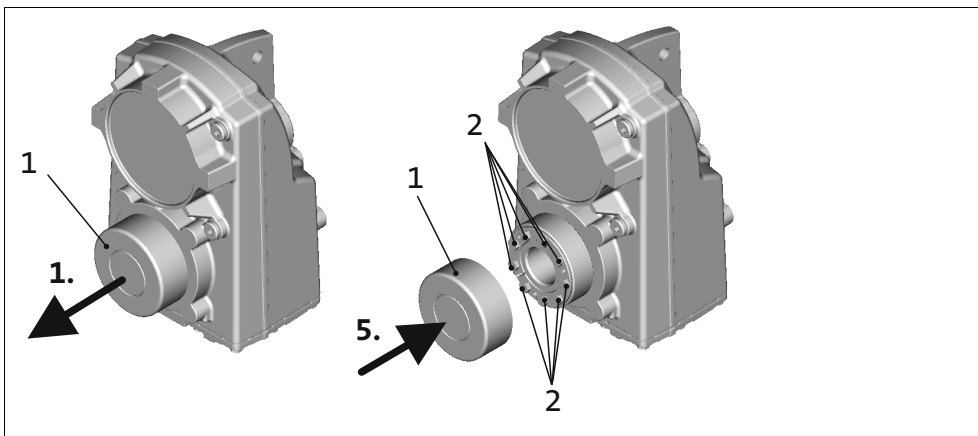

Fig. 13 Shrink disc cover
8. Push protective cap (1, Fig. 13) onto the shrink disc.